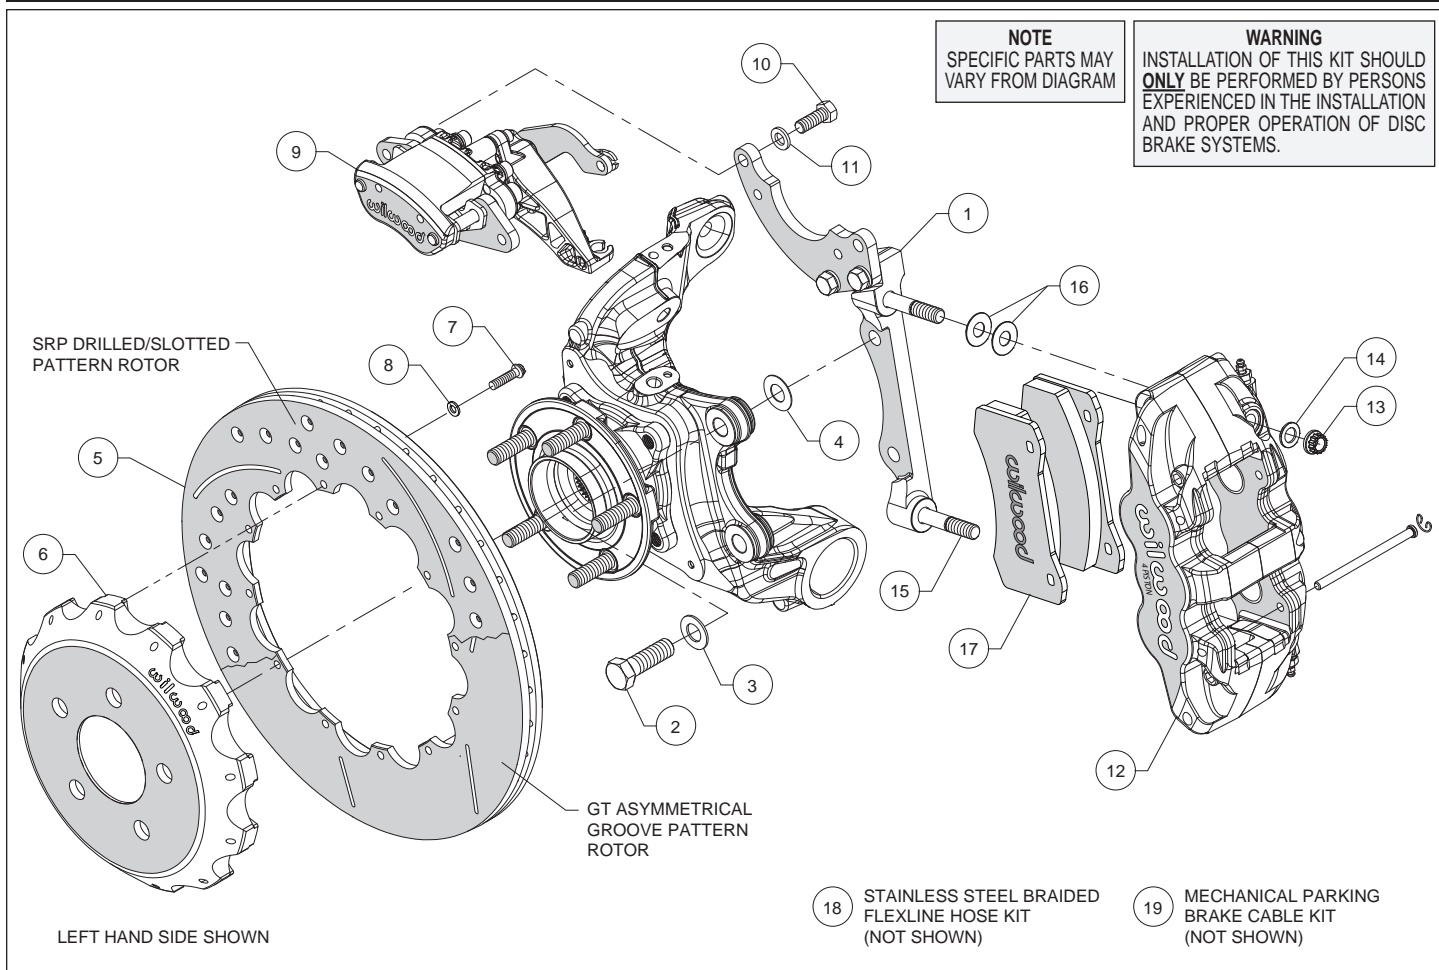
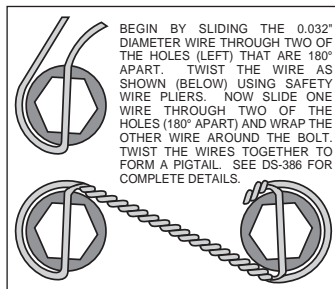

Figure 1. Typical Installation Configuration
Figure 3. Safety Wire Diagram
Assembly Instructions (numbers in parenthesis refer to the parts list and Figure 1 on the preceding pages):
- The caliper mount bracket (1) should initially be installed with clean, dry threads on the mounting bolts. Orient the bracket as shown in Figure 1, and Photo 1, and install using bolts (2) and washers (3). Initially place one .029" thick shim (4) on each bolt between the bracket and upright, Figure 1. Temporarily tighten the mounting bolts. **NOTE: The bracket must fit squarely against the mount bosses on the upright.** Inspect for interference from casting irregularities, machining ridges, burrs, etc. Later, after the caliper alignment has been checked, the mount bolts will be secured using red *Loctite*® 271.
- Orient the rotor (5) and the hat (6) as shown in Figure 1 and Photo 2. Attach rotor to hat using bolts (7) and washers (8). Using an alternating sequence, apply red *Loctite*® 271 to the threads, and torque to 155 in-lbs. For an added measure of security, the bolts may be safety wired using standard 0.032 inch diameter stainless steel safety wire as shown in Figure 3. Please refer to Wilwood's data sheet DS-386 (available at www.wilwood.com/Pdf/DataSheets/ds386.pdf) for complete safety wire installation instructions.
- Lubricate the caliper mounting studs (15) with lightweight oil. Initially place two .030" thick shims (16) on each stud as shown in Figure 1 and Photo 4. Mount the caliper (12) onto the bracket (1) using lock nuts (13) and washers (14), Figure 1. Temporarily tighten the lock nuts and view the rotor through the top opening of the caliper. The rotor should be centered in the caliper, Photo 5. If not, adjust by adding or subtracting shims (4) between the bracket and the mounting bosses. Always use the same amount of shims on each of the two mounting bolts. Once the caliper alignment is correct, remove the bracket mounting bolts one at a time, apply red *Loctite*® 271 to the threads, and torque to 77 ft-lb.
- Remove the two pad retaining pins from the caliper (12) by carefully popping out the pin retaining clips and sliding out the pins. Insert the brake pads (17) into the caliper from the bottom, Figure 1 and Photo 6. With the friction material facing the rotor, secure the brake pads in place with the pad retaining pins and clips, Photo 7. Reinstall the caliper onto the caliper mounting bracket and temporarily tighten the lock nuts. Check that the top of the brake pad is flush with the outside diameter of the rotor, Photo 8. If not, adjust by adding or subtracting shims (16) between the caliper and the bracket. After the caliper pad height is set, torque the caliper lock nuts (13) to 47 ft-lb.
- Orient the parking brake caliper (9), as shown in Figure 1 and Photo 9, and mount onto the top section of the caliper mounting bracket (1) using bolts (10) and washers (11), Figure 1. **NOTE: For this kit, the parking brake caliper marked 'right hand' MUST be mounted on the left side of the car, and vice versa.** Apply red *Loctite*® 271 to bolt threads, and torque to 30 ft-lb.